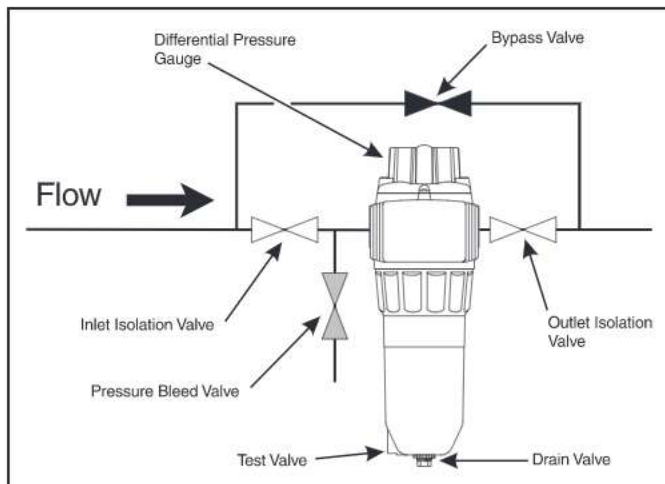

Figure 3
1. Isolate the filter by opening the bypass valve (in a three-valve installation; refer to Figure 3), and closing both isolation valves.
1. To isolate the filter, open the bypass valve (in a three-valve installation; refer to Figure 3, page 6) and close both isolation valves.